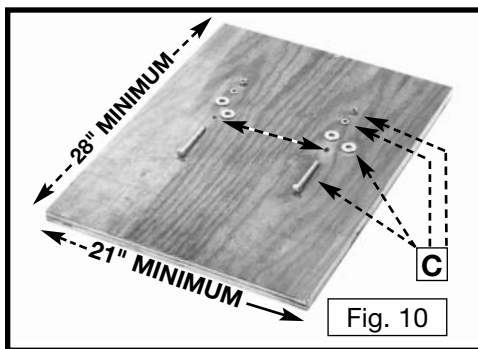

Fig. 10
- Fasten the drill press base to the mounting board using the carriage bolts, flat washers, lockwashers, and hex nuts (C) Fig. 10, furnished with your drill press. The holes for the carriage bolt heads and flat washers under the board must be countersunk so that the bolt heads are flush or below the bottom surface of the board. Make sure to use a flat washer, lock washer and hex nut above the drill press base.